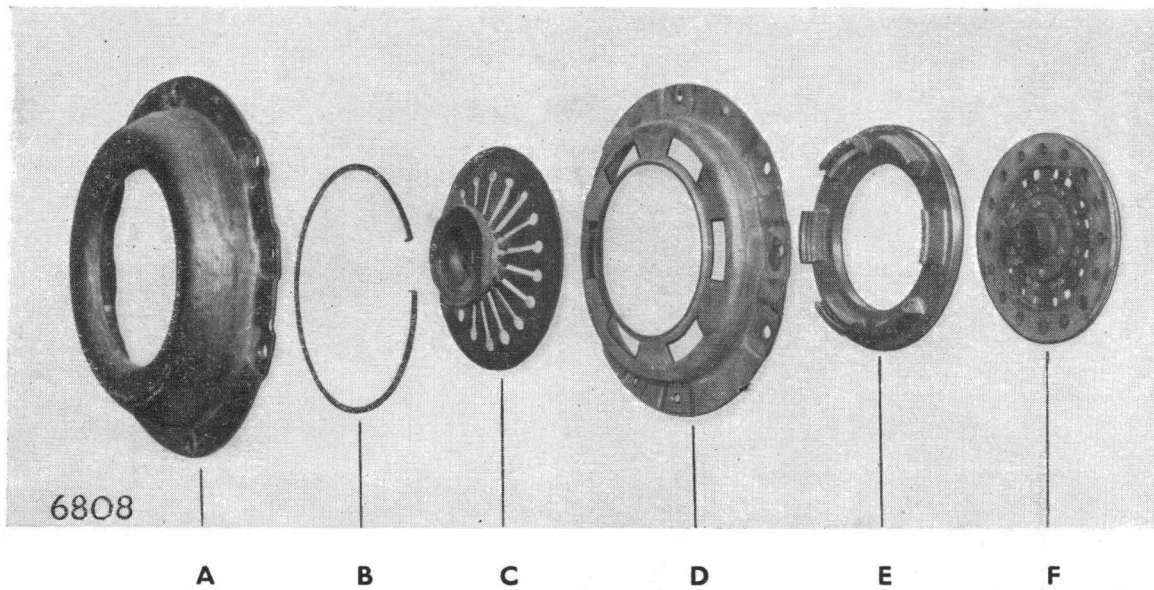

Fig. 7. Exploded view of clutch assembly
1. Apply a trace of grease (preferably zinc base), Shell Retinax AM. is suitable, to the sides of the pressure plate lugs, fulcrum points for the diaphragm spring on the pressure plate, driving plate, cover and also to the finger-tips where they enter the release tube. (See Fig. 7, A to E.)
4. Fit diaphragm spring assembly, securing with the retaining ring. If the original diaphragm is fitted, ensure that it is located in the marked position. When fitting a new diaphragm (C) or a new pressure plate (E) the unit must be assembled and the diaphragm (C) depressed a few times, using a press and checked for run out with a clock gauge on the thrust pad. Reposition the diaphragm and check. Repeat until minimum run out is obtained. Maximum permissible run out on any clutch .035" (.89 mm.) on the thrust pad.
The cover (A) and driving plate (D) MUST NOT be interchanged but kept together as a set. When fitting the ring (B) it is important its "turned-up" ends are uppermost, and positioned midway between the pressure plate lugs. (See Fig. 7.) After fitting retaining ring press this firmly into each retaining groove.